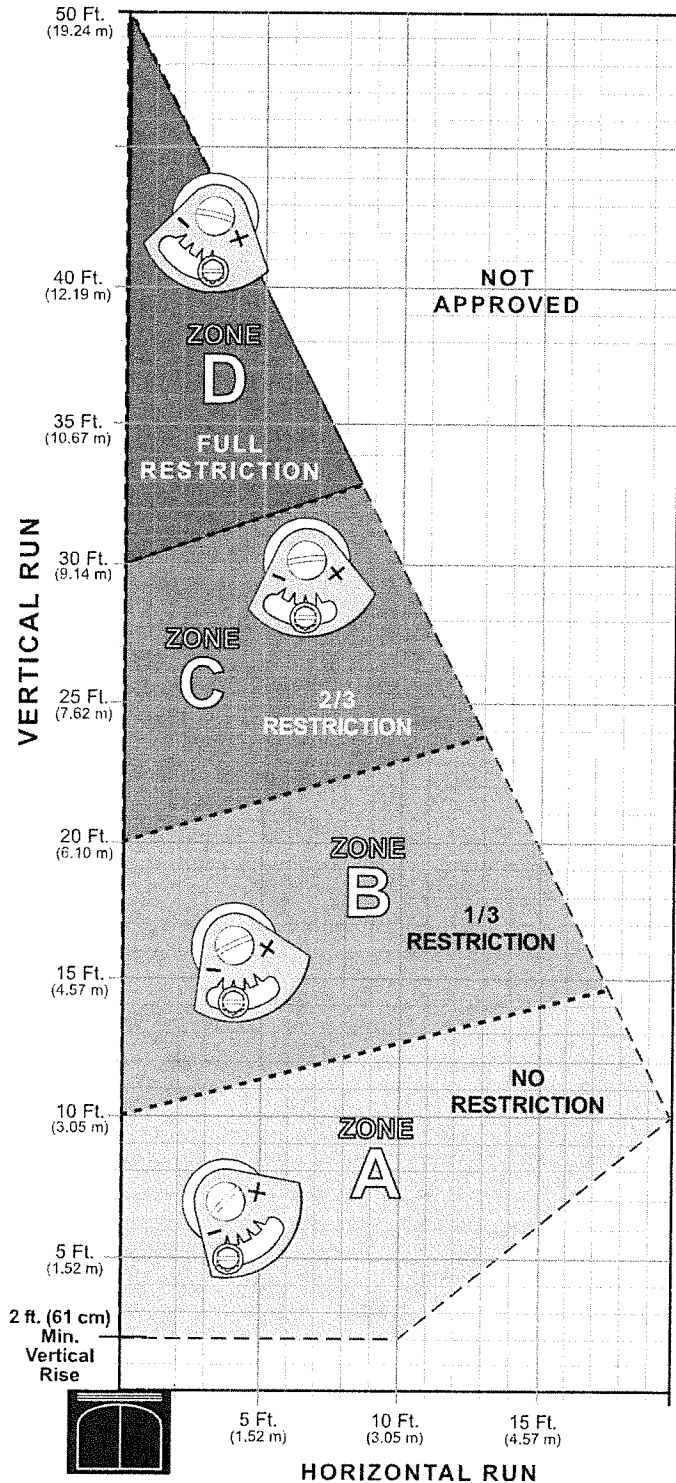

Figure 21. Top Exit, Vertical or Horizontal Vent Termination Diagram.
- Any horizontally terminated vent system that includes a vertical run must terminate with the shaded areas in the diagram in fig. 21. See page 14 for important information regarding exhaust restriction adjustments.
- **The termination must fall within any of the shaded areas in the termination diagram, fig. 21 on page 15.**
NOTE: The restrictor valve is set FULLY OPEN at the factory. Use the Vent Termination Diagram, fig. 21, to determine which zone your vent termination falls within and make the appropriate exhaust setting adjustment. Consider this setting to be a starting point, from which further adjustments may be required depending upon the individual characteristics of your particular installation. There are no hard and fast rules.
1. Use the spade end of the Latch Tool to loosen the locking screw and turn the adjustment screw on the restrictor pivot plate to the appropriate indicator point, as specified in the vent window diagram, figure 21.